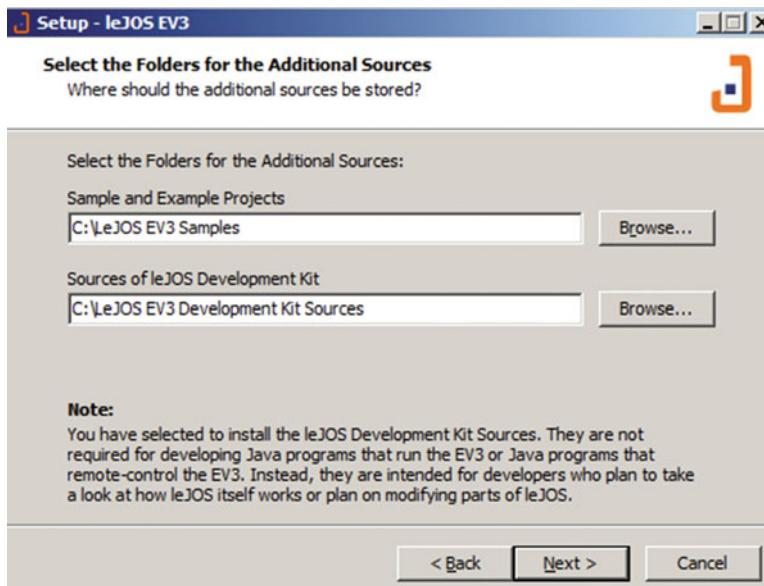

Figure 1-13. Selecting folders where to install the sample leJOS projects
6. Check to choose all of the components you wish to install, and then click *Next* button. You will see the screen shown in Figure 1-13.